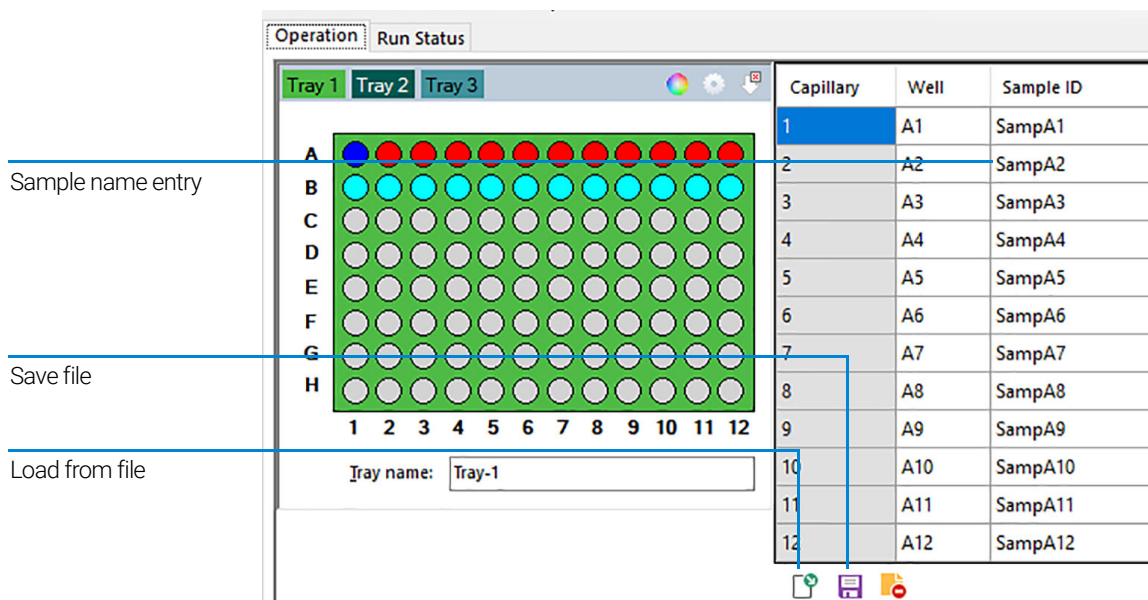

Figure 52 Manual sample entry
- 3 Save the file as a .txt or .csv using the save functions (**Figure 52**).